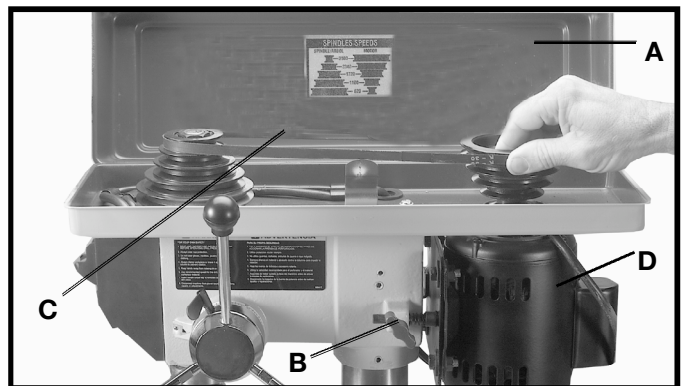

Fig. 26
2. Lift up the belt and pulley guard (A) Fig. 26.
3. Release belt tension by loosening tension lock knob (B) Fig. 26, and pivoting the motor (D) toward the front of the drill press.
4. While holding the motor toward the front of the drill press, position the belt (C) on the desired steps of the motor and spindle pulleys, as shown in Fig. 26.
5. After the belt is positioned on the desired steps of the motor and spindle pulleys, move motor (D) Fig. 26, to the rear until the belt is properly tensioned and tighten tension lock knob (B). The belt should be just tight enough to prevent slipping. Excessive tension will reduce the life of the belt, pulleys and bearings. Correct tension is obtained when the belt (C) can be flexed about 1" out of line midway between the pulleys using light finger pressure.